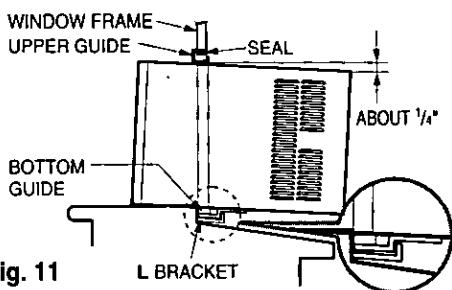

Fig. 11
- b. While steadyng the air conditioner, carefully bring the window sash down behind the upper guide of the air conditioner, as shown in Fig. 11.